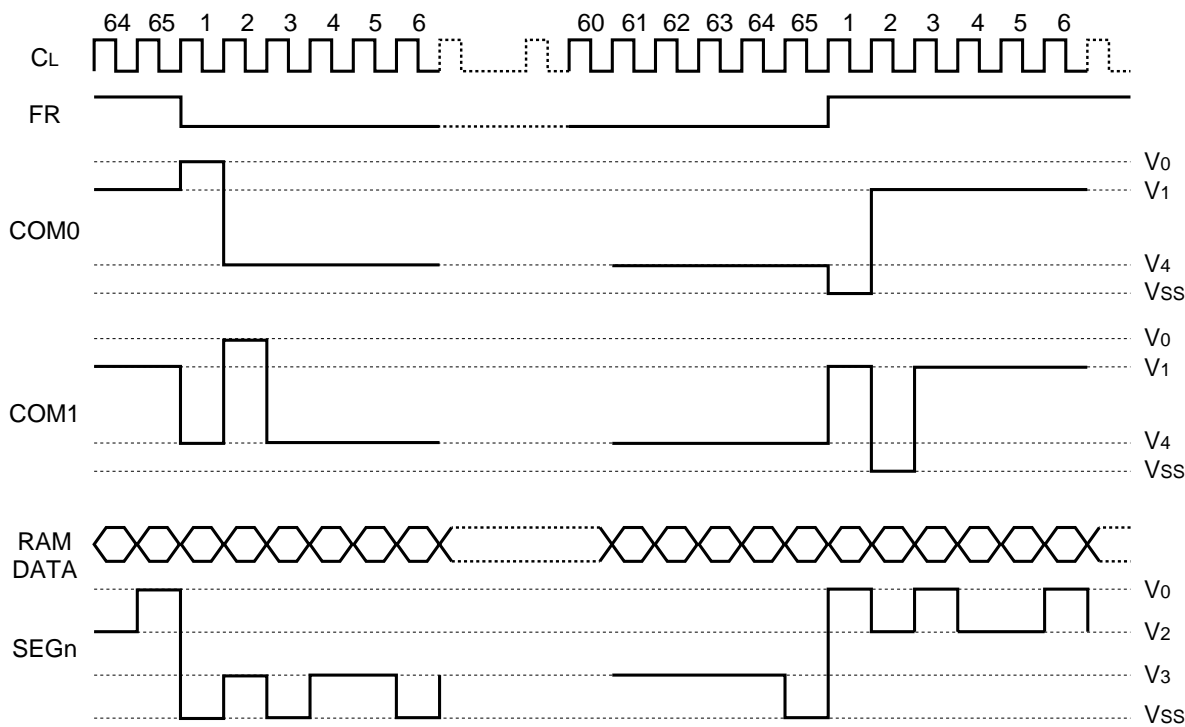

Figure 6
The circuit also generates COM scan signal and the LCD AC signal (FR) from the display clocks. As shown in Figure 6, the FR normally generates the 2- frame AC drive waveforms .